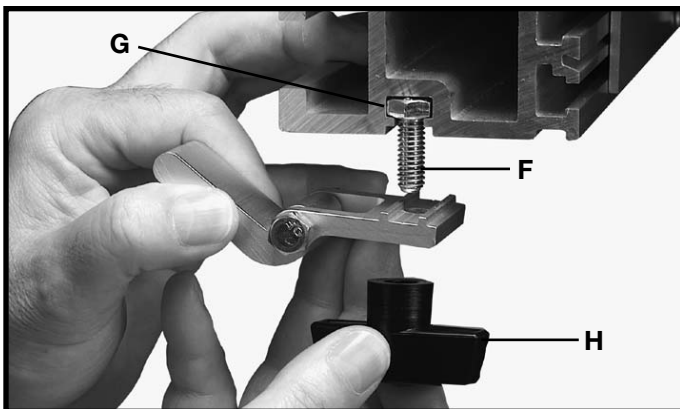

Fig. 65
2. The Rail Stop Assembly, Fig. 65, can then be attached to the guide rail by inserting head of 5/16-18 (F) hex head bolt into T-Slot (G) positioning the stop assembly to the rail and tightening knob (H) finger tight.